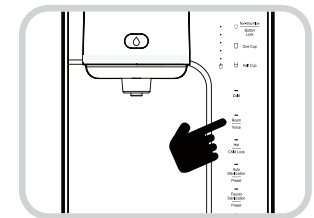

Fig. 4
1. Check if the Room water/Voice Display Lamp is ON and press the Room water/Voice button. (Fig. 4).